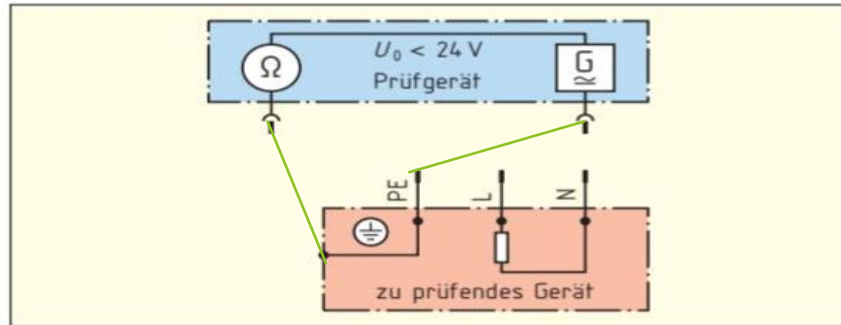

Figure 2: Measurement of the protective conductor resistance
a) Complete the connection of the test leads in Figure 2 when measuring the protective conductor resistance.